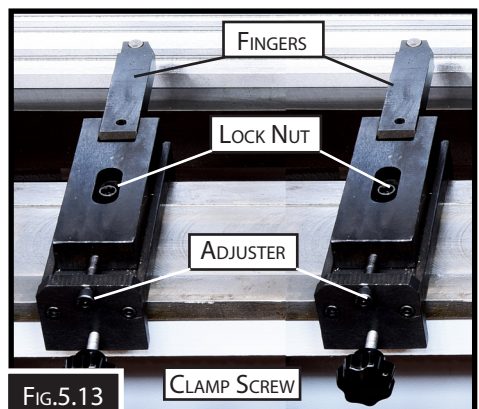

FIG.5.13
5. Once the height of the fingers has been set and the fingers have been moved to the position required, then final adjustment if required can be made to make sure that both fingers are the same distance from the die. If required the fingers can be moved in or out by loosening the lock nuts and using the adjuster to move the fingers. Once in position re-lock the lock nut. (Fig.5.13)